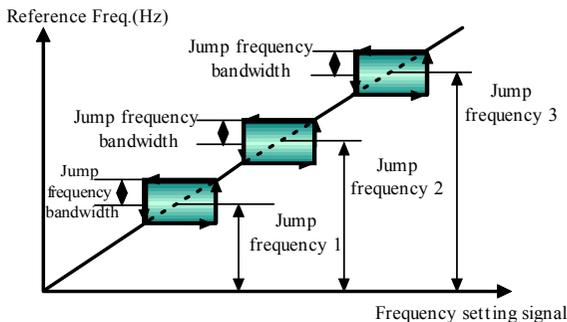

Figure. 5-2-5 Jump Frequency
- ◆ In order to make the setting frequency of the inverter avoid the resonance frequency point of the mechanical load, the setting frequency of the inverter can hop near some frequency point. The operating frequency corresponding to the resonance frequency is jump frequency as shown in Fig. 5-2-5.